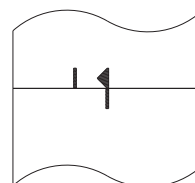

Fig.2
- Rotate the upper unit in the direction of the arrow(②) to lock it into place. (Refer to Fig.2)